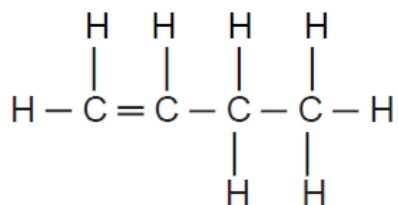

Figure 11.1
- (d) Butene can exist as 3 isomers. One isomer of butene is shown in Figure 11.1.